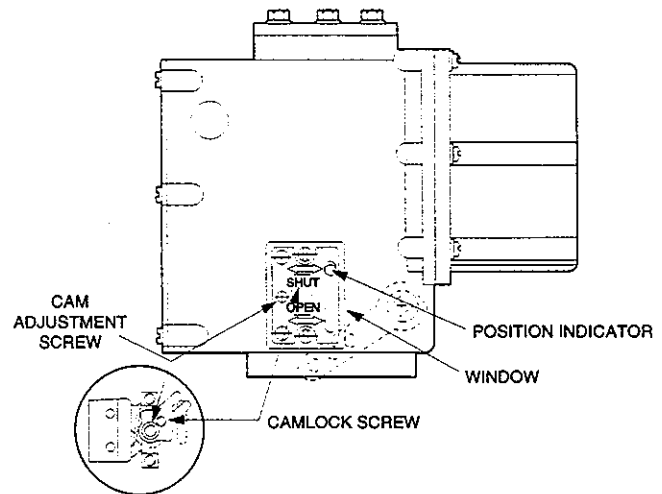

Figure 4. Auxiliary Switch Adjustment
1. Remove the window (Figure 4).
1. **Turn off power.** Remove six cover screws and the cover plate (Figure 1). Remove window (Figure 4).